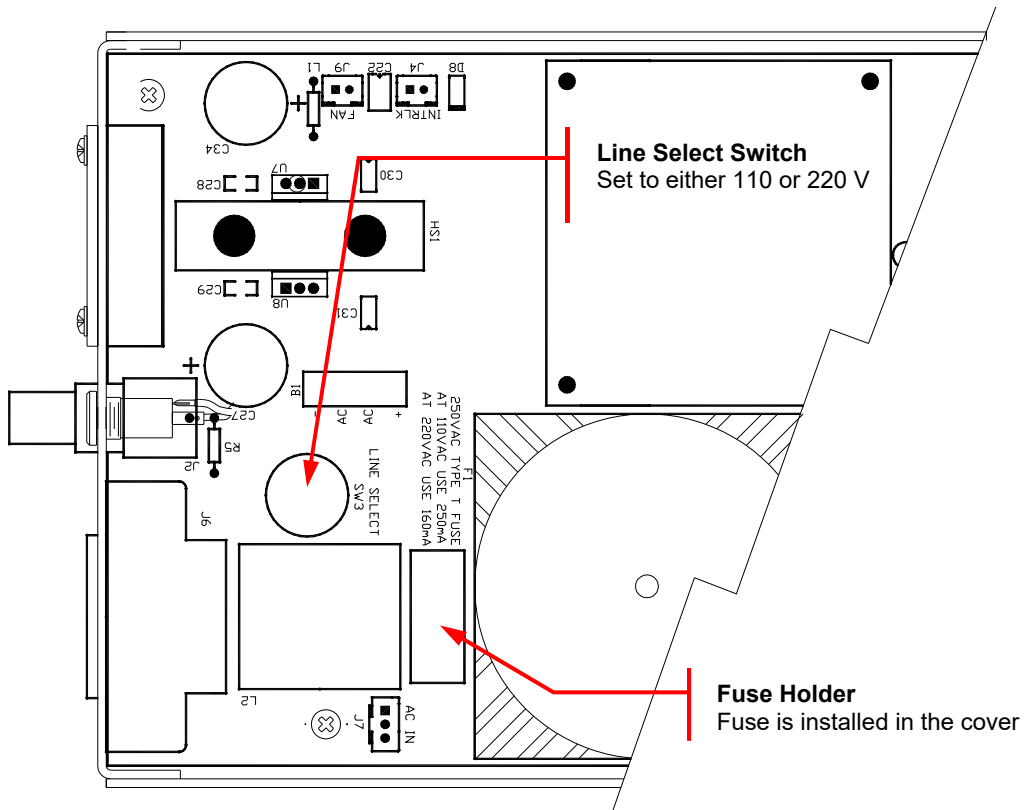

Figure 1 Locations of Line Select Switch and Fuse Holder
- Remove the cover of the unit by removing the two 4-40 Philips head screws located on the bottom rear of the unit and slide the cover off. Refer to Figure 1 on page 5.
- Locate the AC Line Select Switch and Fuse Holder. They are located near the AC Input Module towards the back of the unit. Refer to Figure 1.